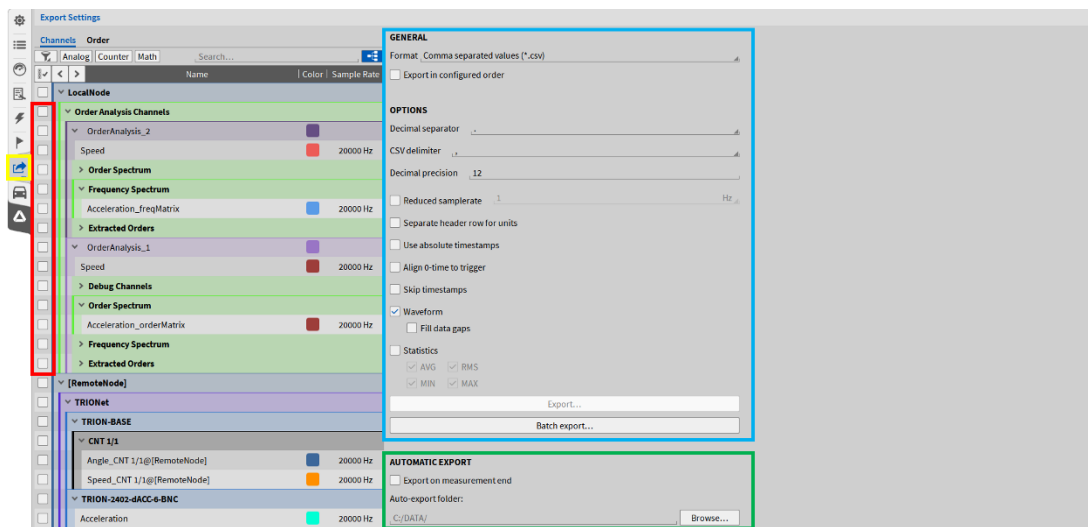

Figure 6-1: Export menu - Overview
To export the data, go to the export menu by selecting the certain menu tab on the menu bar (see yellow box in Figure 6-1).
- To export the data, select the channels to be exported with a check mark right to their name (see red box in Figure 6-1)
- Go to the options section, select the individual export format and the corresponding options below. Click the export button to start the data export (see blue box in Figure 6-1)
- It is also possible to automatically export the data in one of the stated formats automatically after measurement end (see green box in Figure 6-1)